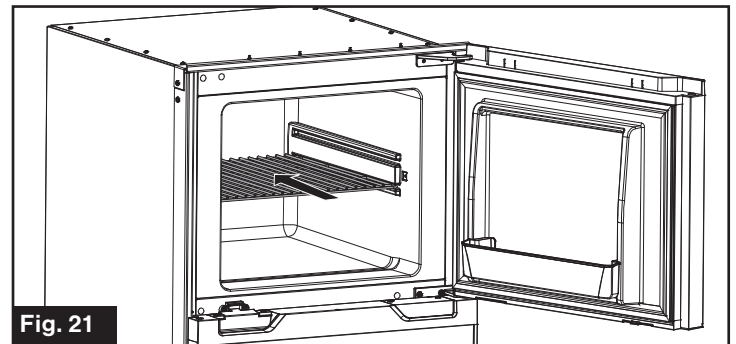

Fig. 21
5. Slide the shelf into an appropriate position and fix with screw. (Fig. 21)